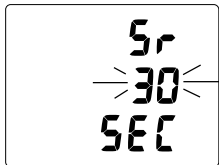

Fig. 36 - SET SAMPLING RATE
**SET SAMPLING RATE**, information includes (Fig. 36):